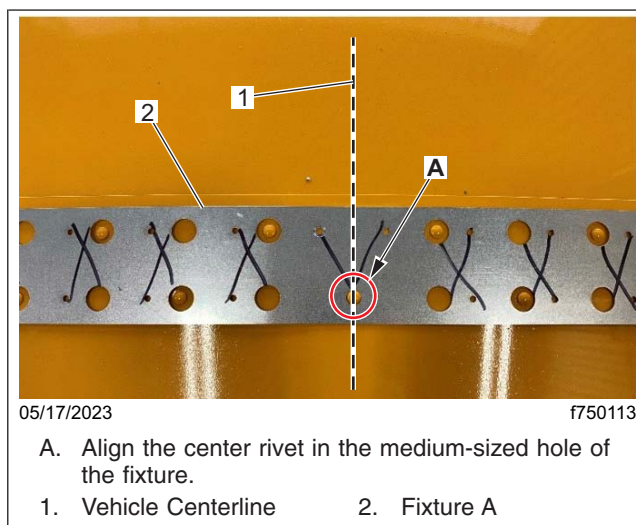

Fig. 9, Aligning the Center Rivet, Fixture A
12. The center rivet should fit securely in the medium-sized hole, located near the center of each fixture, as shown in **Fig. 9**.